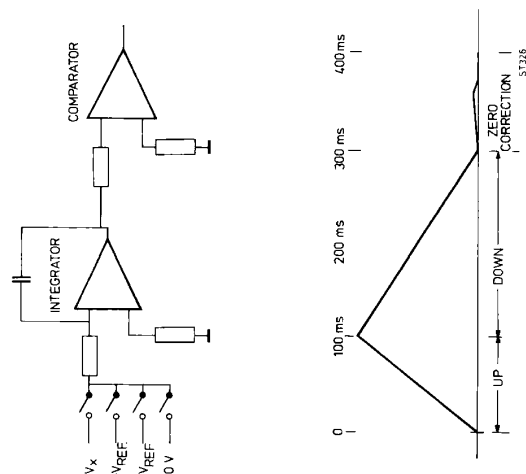

Fig. 3. Principle of the analog-to-digital converter
2. Analog-to-digital converter (Fig. 3)